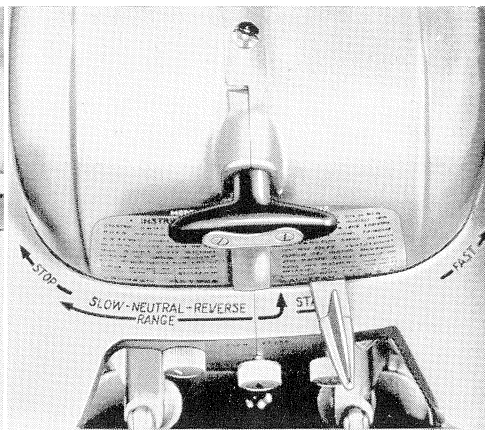

Figure 14
The shift lever can be moved into “neutral” position only when the control (speed) lever is set within “neutral” range (indicated on the motor rest bracket). (Fig. 14.)
4. Move control (speed) lever to “start” position (Fig. 14) (Spark and carburetor controls are synchronized).
10. To stop motor, move control (speed) lever to extreme left "stop" position to ground out ignition. Hold until motor stops running (Fig. 14).